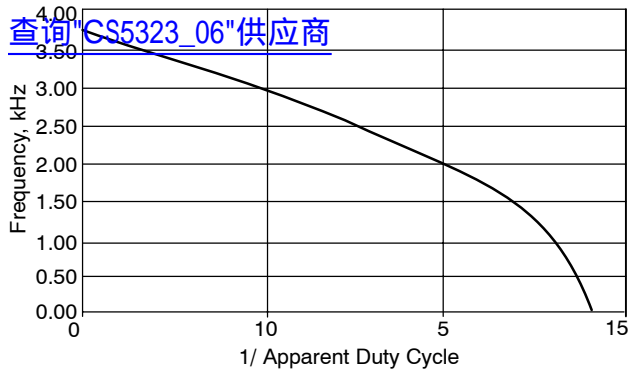

Figure 13. Normalized Input Filter Capacitor Ripple Current
- Calculate Input Filter Capacitor Ripple Current. Use the chart in Figure 13 to calculate the normalized ripple current (K_{RMS}) based on the reciprocal of Apparent Duty Cycle. Then multiply the input current by K_{RMS} to obtain the Input Filter Capacitor Ripple Current.